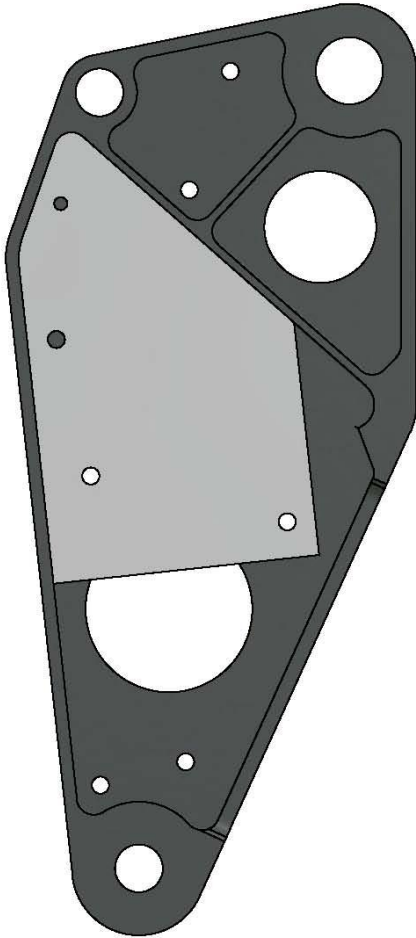

Figure 5.1
7. Modify parts 1004882, 1004893, 1004894, 1005375 by fitting up Tool, Location, Snubber 1006714, and 1006715 in to corners of 1004882 and 1005375 as shown in Figures 5.1 and 5.2, match drill $\varnothing.25$ hole thru 1004882, 1004893, 1004894, 1005375 and $\varnothing.19$ hole thru 1004882 and 1004894.